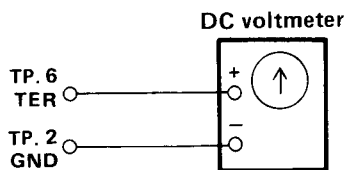

Fig. 29
(2) Adjusting procedure
- [1] Connect the DC voltmeter to TP.6 (TER). (Fig. 29)